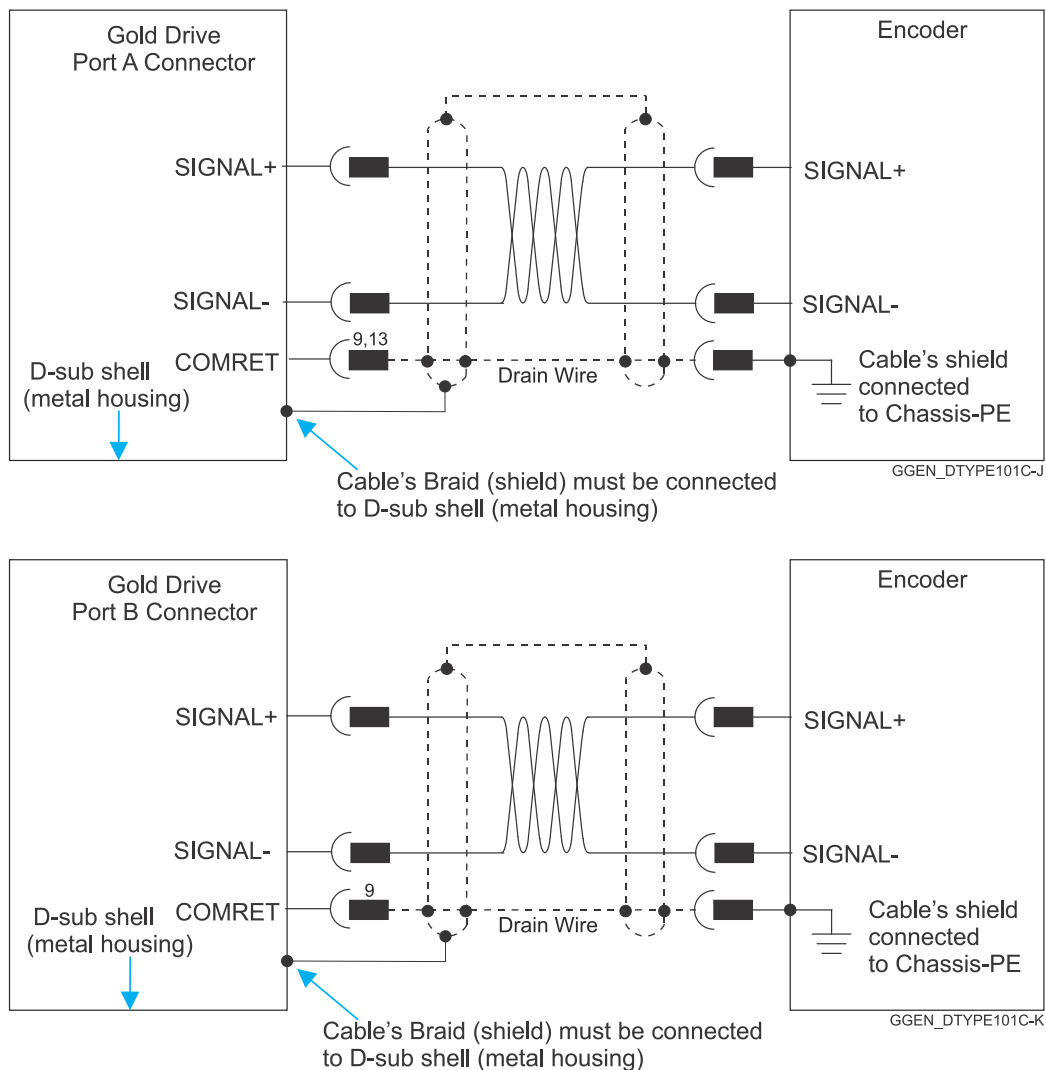

Figure 7: Feedback Port A and B Cable Assemblies
- a. At the drive, connect the feedback drain wire to one of the COMRET terminals in the D-Type feedback connector (Figure 7).